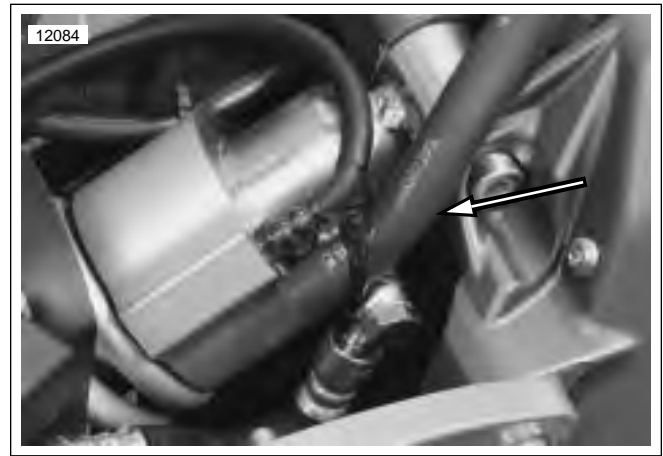

Figure 3-40. Transmission Vent Line
6. See Figure 3-40. Route transmission vent line up through left side of frame exiting under the left rear side of the intake cover assembly. Install cable strap to secure transmission vent line in place. Inspect vent line to verify space between vent line and rear exhaust.